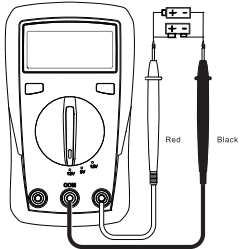

Figure 4
- Small Battery Measurement** (CP7400 only, see Figure 4)